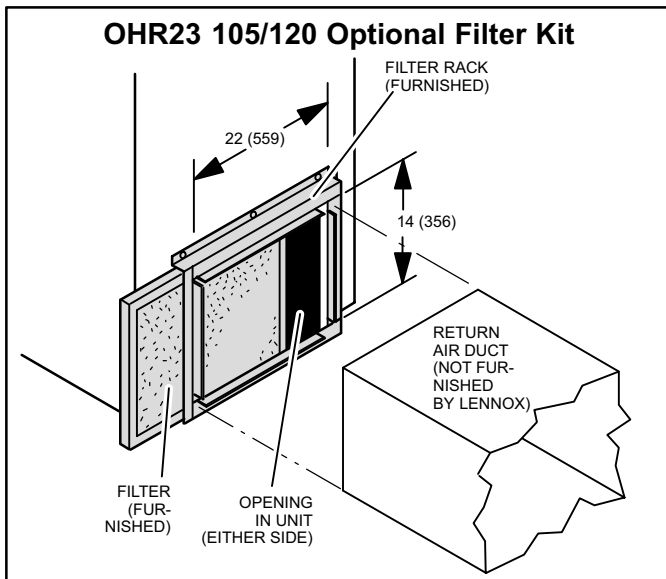

Figure 4
2. Using a scribe through the filter rack mounting holes, mark seven mounting hole locations in the return end of the cabinet. See figure 4.